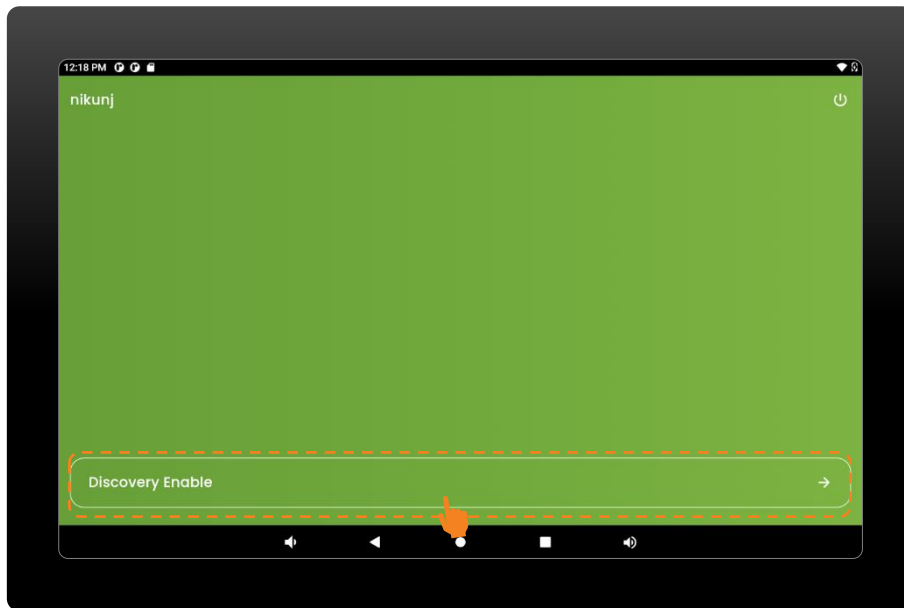

Figure 38 Discovery Enable Screen.
- Press the discovery enable button. (Figure 38)